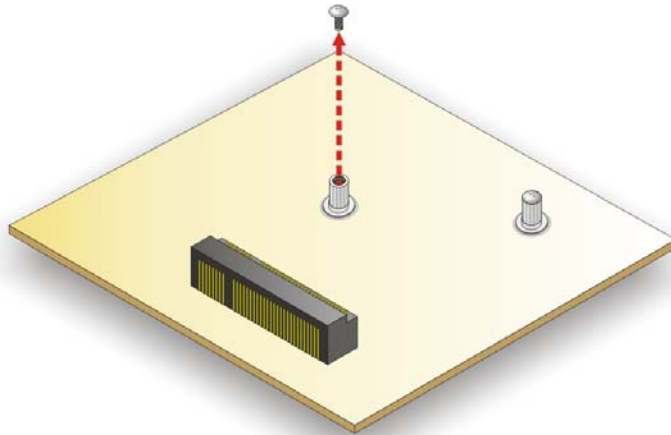

Figure 3-18: Removing the Retention Screw
Step 4: Remove the retention screw. Remove the retention screw for half-size card installation as shown in Figure 3-18.